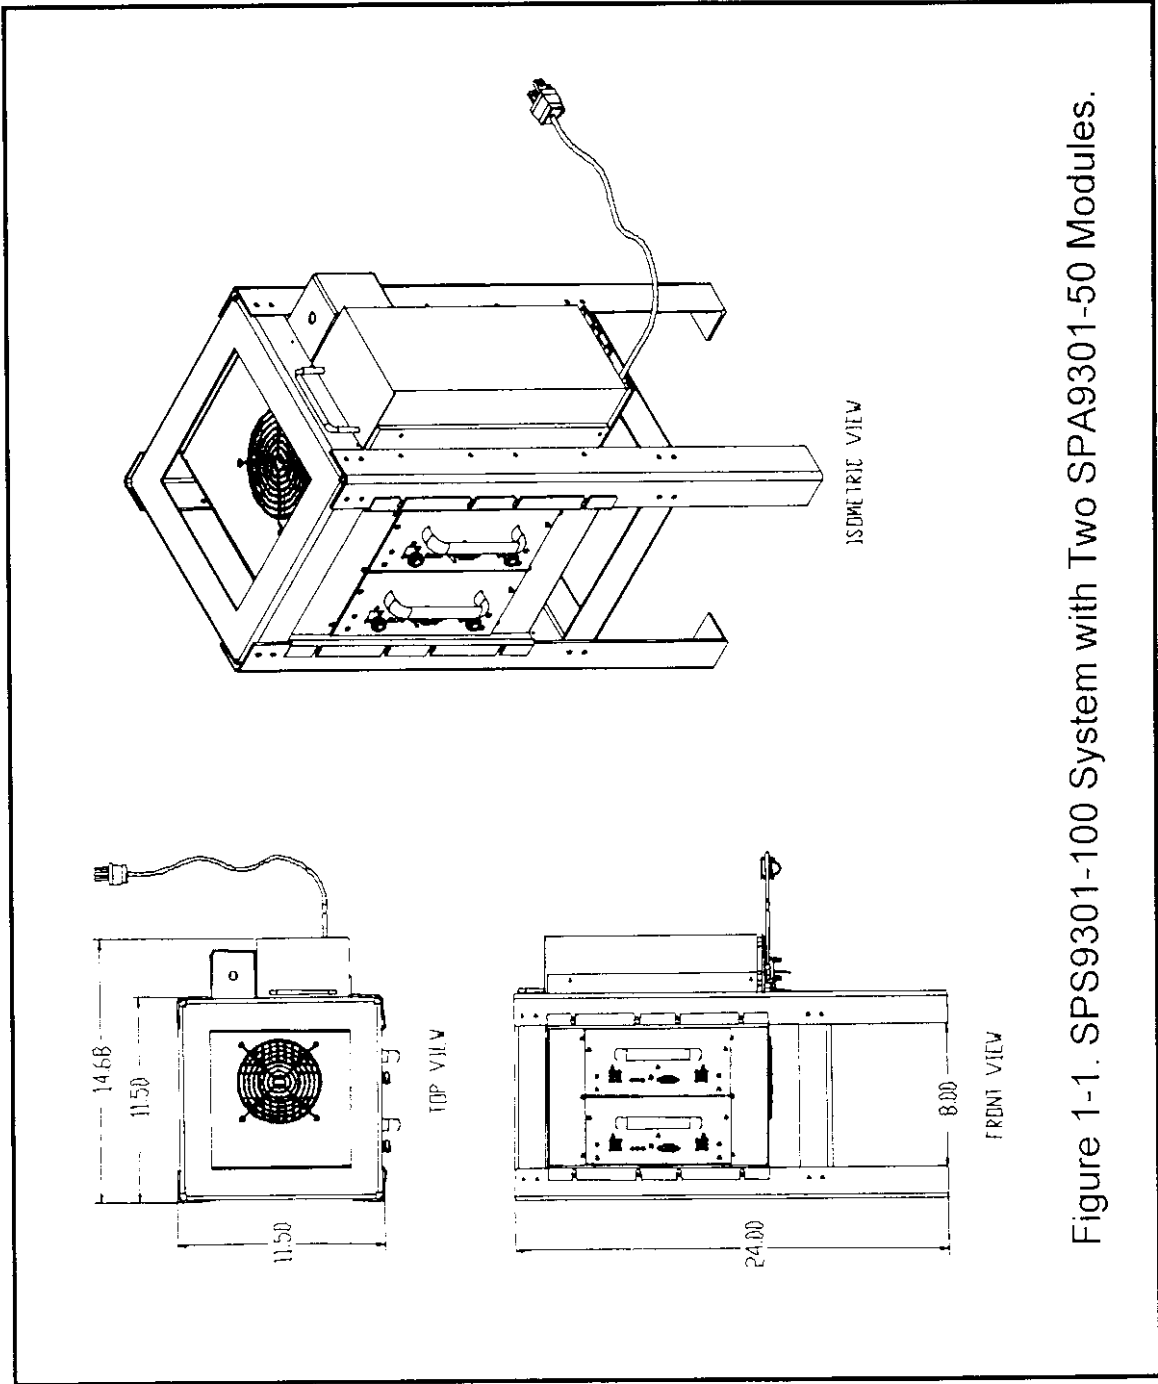

Figure 1-1. SPS9301-100 System with Two SPA9301-50 Modules.
The SPS9301-100 amplifier system is a single channel GSM power amplifier that operates from 1930 MHz to 1990 MHz. The amplifier system is modular in design, and is ideally suited for use in GSM base stations. The amplifier system is available in a minirack with two plug-in amplifier modules, a power supply, and low-loss cable extensions (figure 1-1). The plug-in amplifier modules each provide 50 watts of power and function completely independently of each other. The amplifier modules are designed for individual sector operation, providing sector continuous operation via fail-safe bypassing. All solid-state, the system is designed to provide trouble-free operation with minimum maintenance. The system's modular construction plus its unique and highly effective LED-based operational status and fault indicators help minimize downtime. The all fail-safe design provides protection in the event of an RF overpower input, an over-temperature condition, or loss of DC power. In the P.A. mode, each amplifier module provides a gain increase of 6 dB per sector. Inadvertent operator damage from front panel manipulation is virtually impossible.
The front panel of each amplifier module has the system RF input and output connectors that interface with the host system. The front panel of each amplifier module also has unit level fault indicators and a power on/off switch. Primary power for the amplifier system is +27 Vdc. Cooling for each plug-in amplifier module is provided by two fans mounted on the top and bottom of the minirack (figure 1-1). The fans draw outside air through the bottom of each module and exhaust hot air through the top of the minirack.
4. Assemble power supply in accordance with figure 1-1.